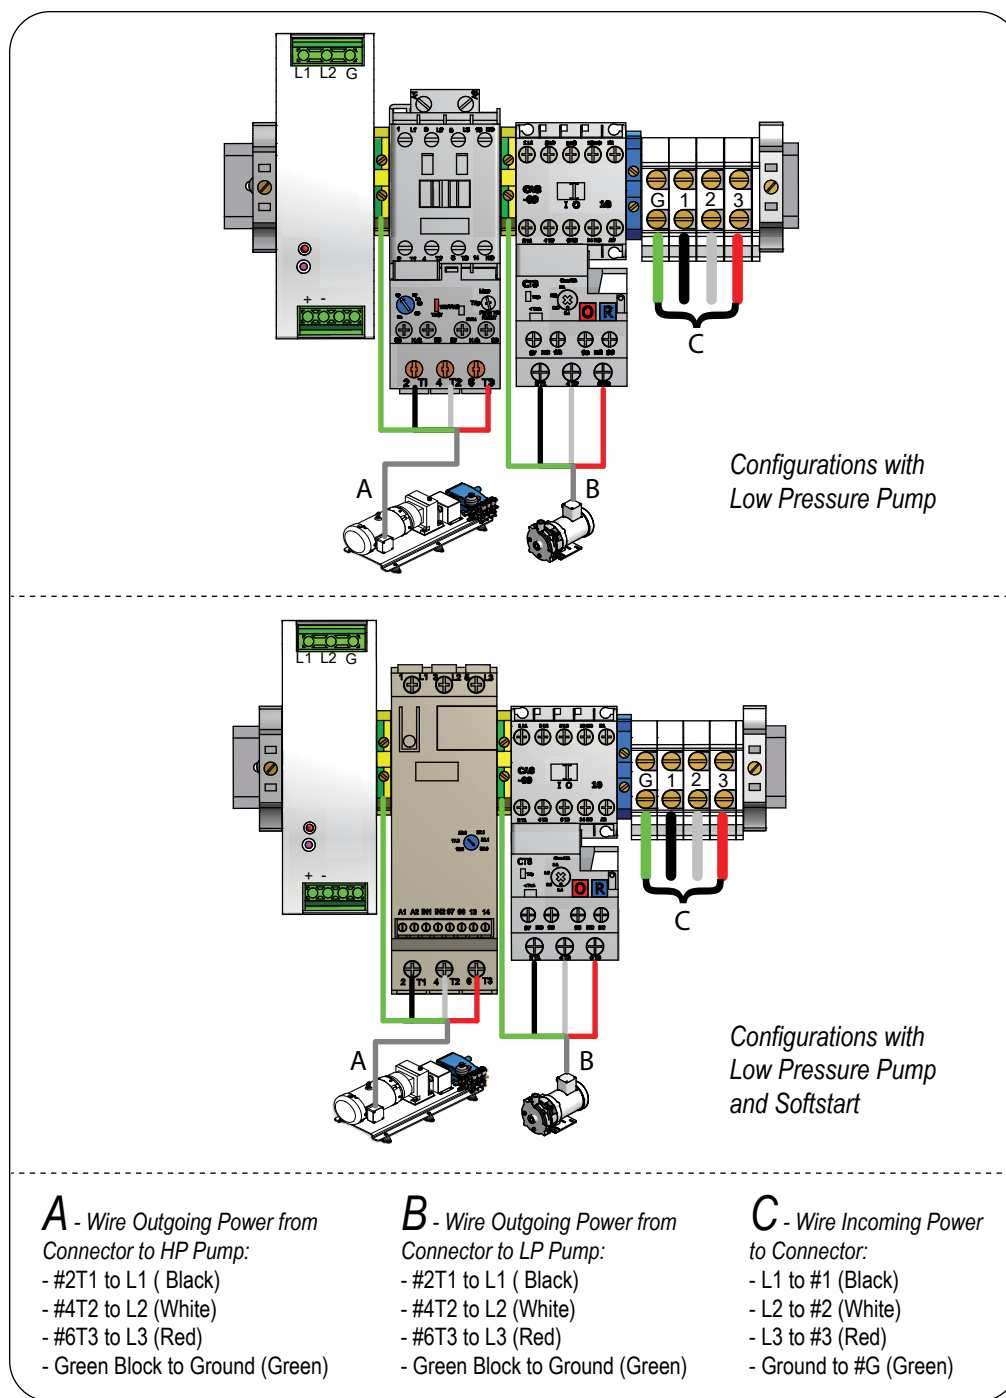

Figure 20: Wiring at the Contactor Block
See Figure 20 on page 51 for details.
- #1, #2, #3, and #G for three phase power (Figure 20 shown above)